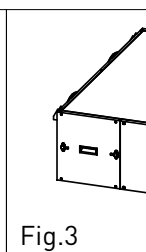

Fig.3
5. Turn the bypass according to image [fig.3 and 4].
- Pull the heat exchanger until it is completely removed from the equipment (Fig. 3).
- Pull out the plate and once outside, remove the fan and proceed to replace it (Fig. 3).